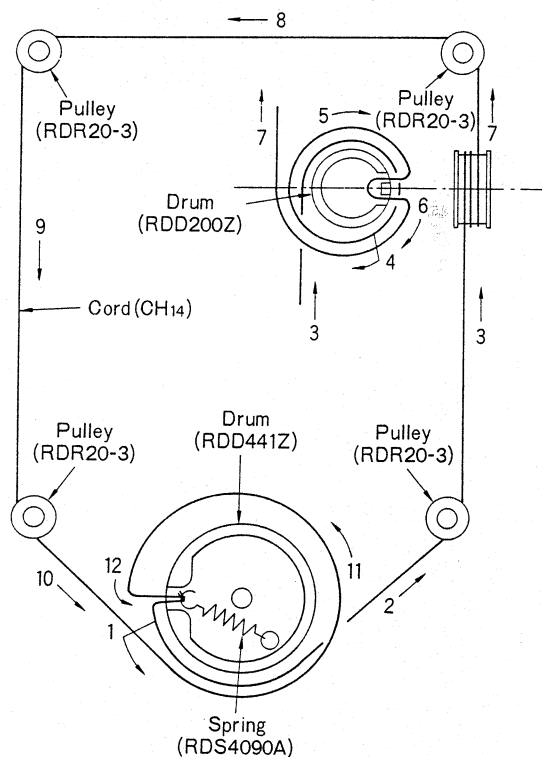

Fig. 9
4. Set the dial drum at the position, as shown in fig. 9.
7. Arrows (1~12) indicate correct order and direction of dial cord installation, as shown in fig. 9.